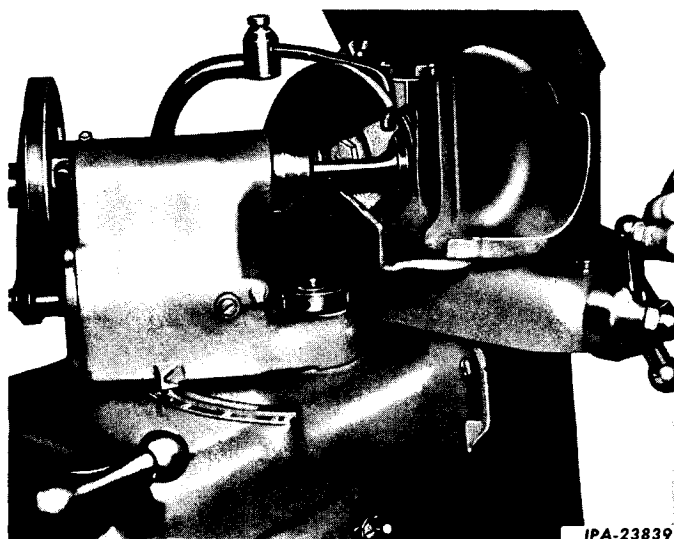

Fig. 26 - Grinding the Valve Face Angle Taking Light Cuts Only.
1. Set the valve refacing machine to grind the desired angle (Fig. 26), and dress the grinding stone. Both intake and exhaust valves are to be ground to the same face angle.
2. Insert a valve in the chuck and take a light cut across its face (Fig. 26). This is a check to determine whether the valve can be reconditioned to service standards with a correct amount of margin maintained. Warpage that may not be apparent in the visual inspection will be clearly definable (Fig. 21).